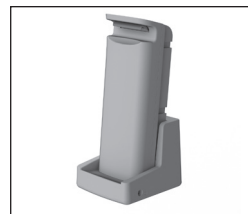

Figure 8 Chargestation with battery.
- Place the battery to be charged on the battery chargestation (See figure 8).